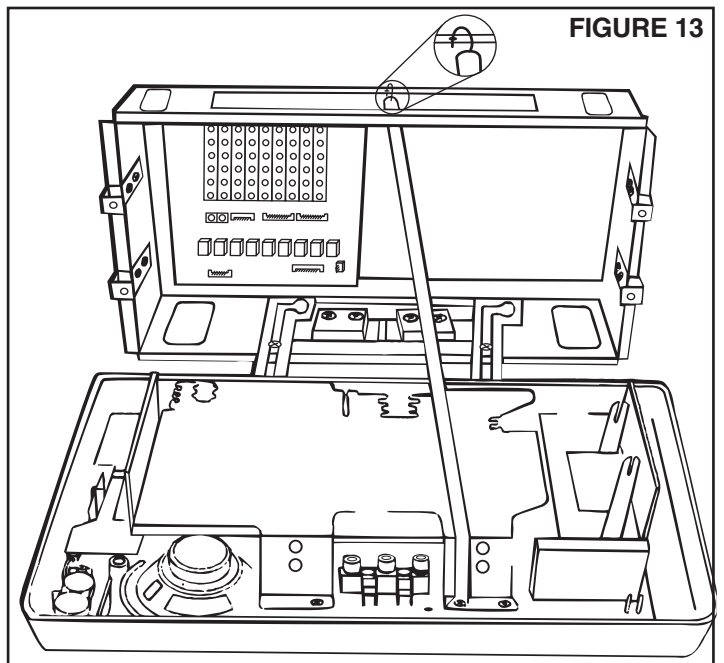

FIGURE 13
6. Refer to Figure 13. Attach support strap to rough-in frame by attaching metal hook into hole in top of rough-in frame. Using pliers, squeeze hook closed. Hook must not come loose when master is later secured.